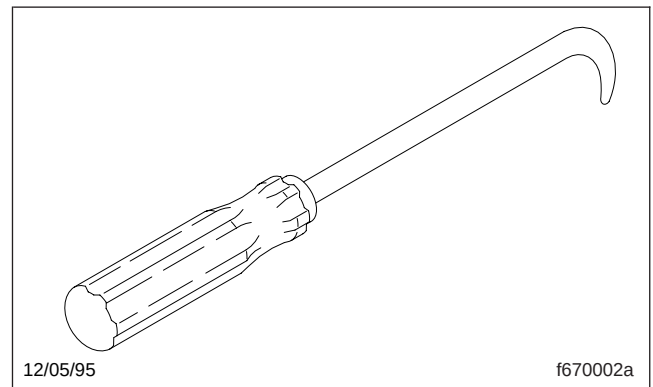

Fig. 2, Typical Windshield Pick
7. Using a windshield pick (Fig. 2), go around the perimeter to separate the glass from the seal.